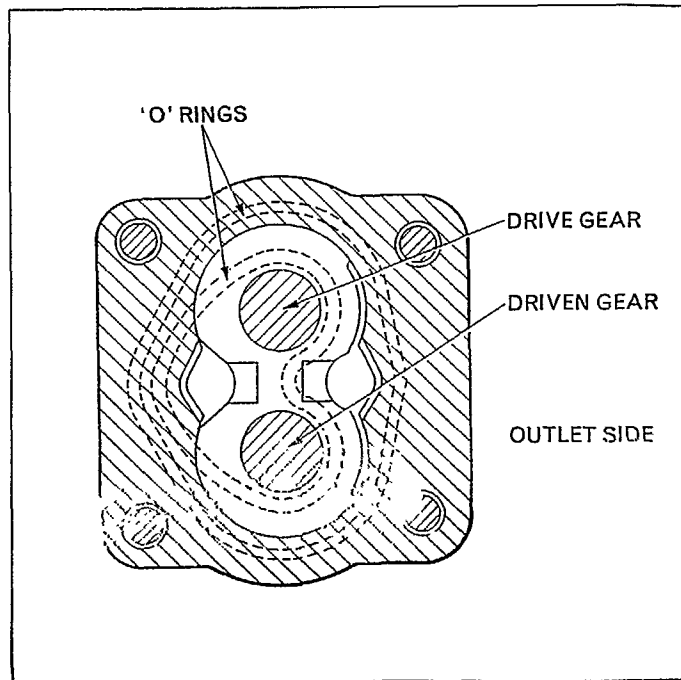
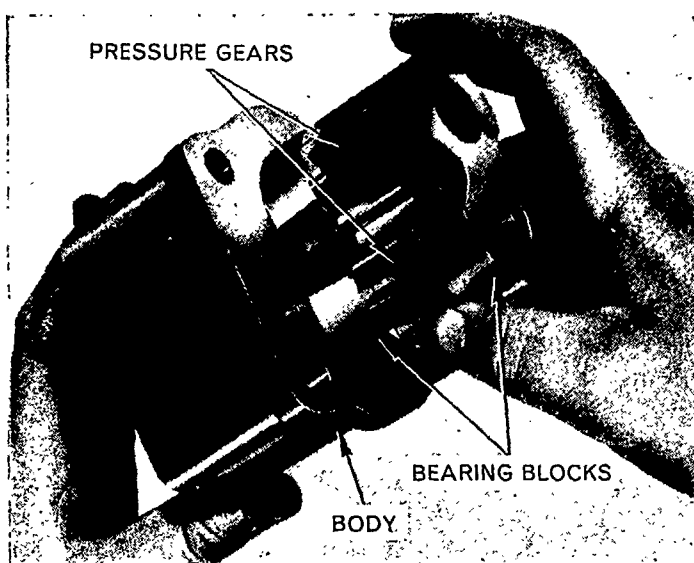

Figure 26
Figure 27
4. Assemble the pressure gears to the bearing blocks, Figure 26, and insert them into the body, Figure 27.